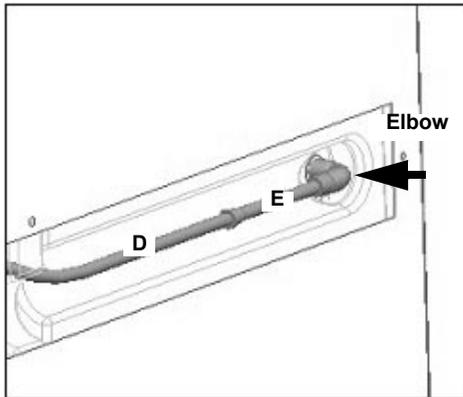

FIGURE 24
25. Remove the liquid line (D) and the extension (E) from the left evaporator. LEAVE the elbow fitting on the evaporator (FIGURE 24).